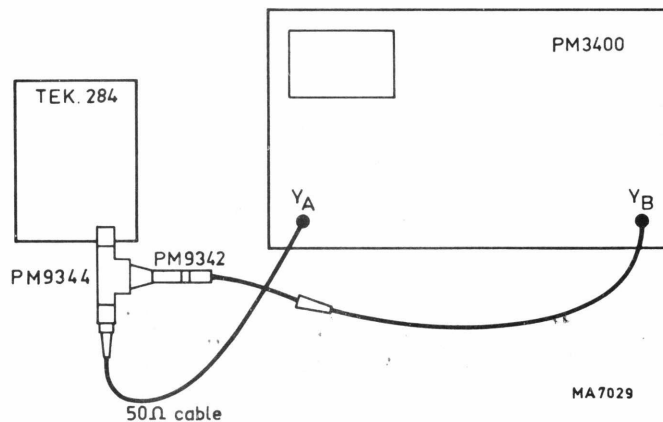

Fig. 8. Test set-up for PM 9342/01
- Set up the test arrangement shown in Fig. 8.